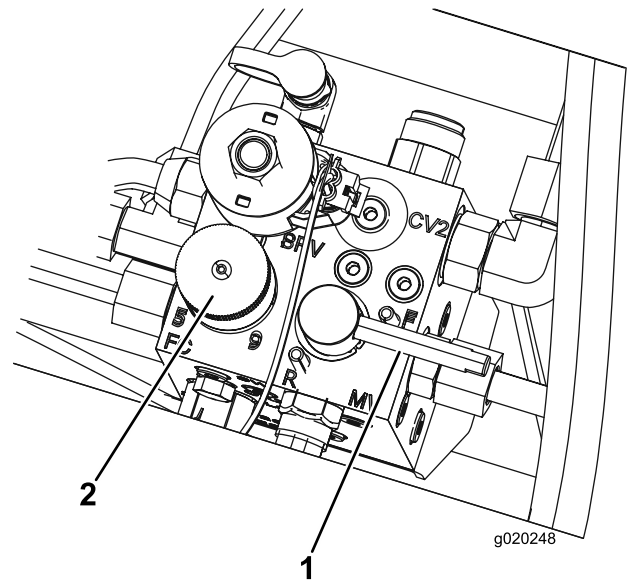

Figure 83
5. Set the reel speed control to position 1 (Figure 83).
6. Move the backlap lever to the R (backlap) position (Figure 83).